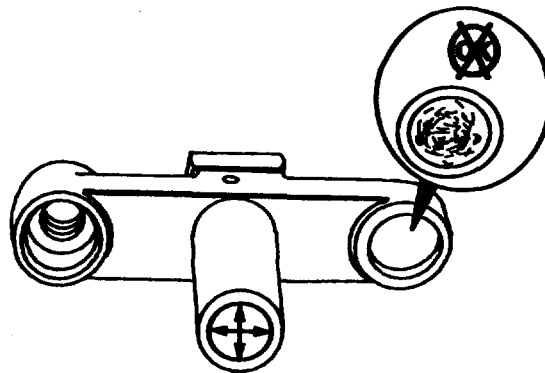

FIGURE 4-36. Crosshead Inspection.
- (5) Measure the valve stem contact area for wear or damage (FIG. 4-36). Measure the inside diameter of the crosshead guide bore. Verify diameter is between 0.434 to 0.440 inch (11.02 to 11.18 mm).